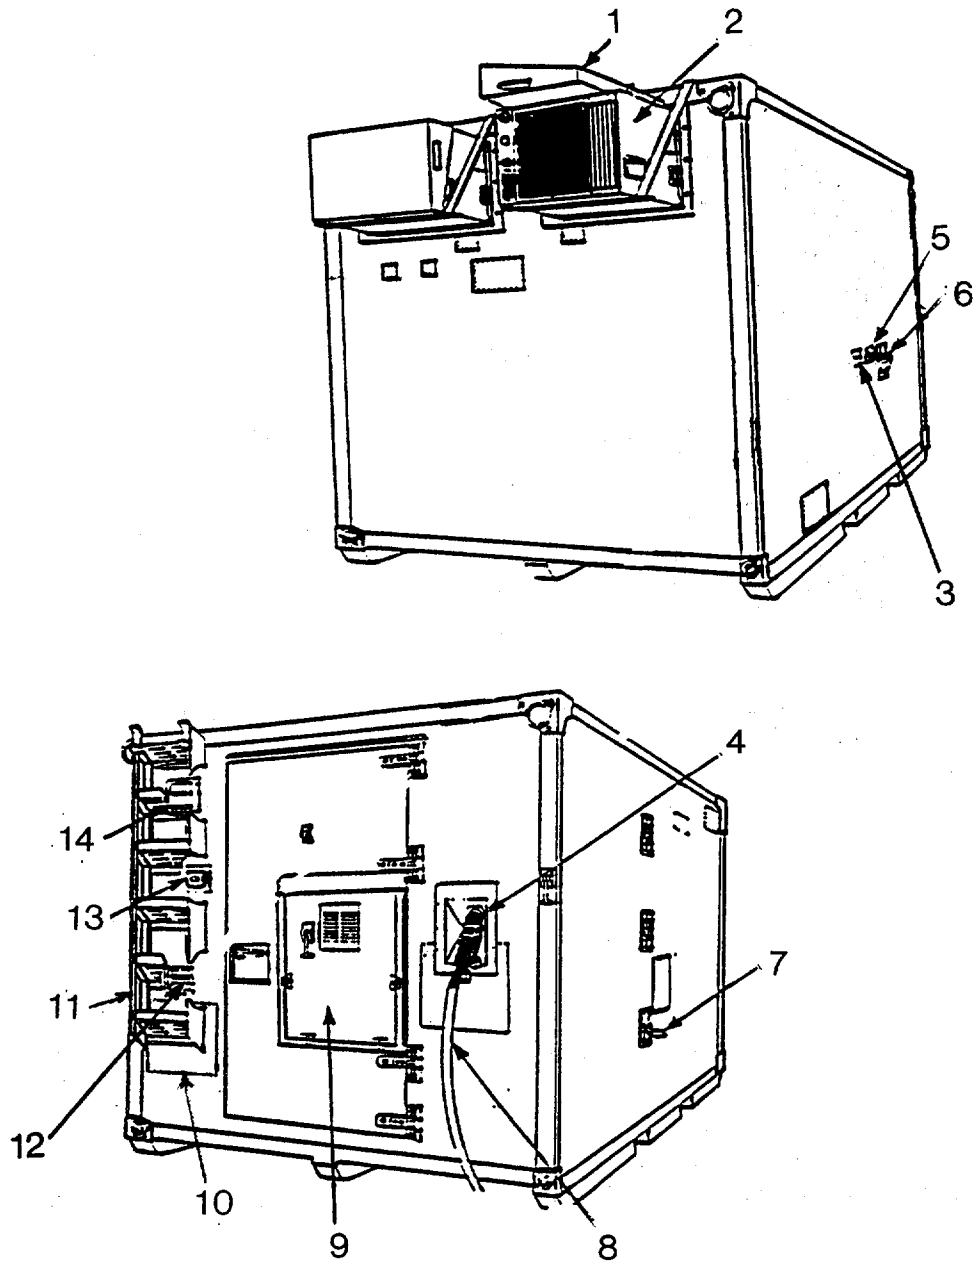

Figure 1-2. Location and Description of Major Components, Editorial Shelter, Exterior
1-11. LOCATION AND DESCRIPTION OF MAJOR COMPONENTS. Left and right orientation is determined by facing the shelter personnel door. Paragraph numbers below correspond to callouts in Figure 1-2 and 1-3. All equipment is located in its operational position.
- a. Editorial Shelter Exterior. Refer to Figure 1-2 for location of major components.
- (1) Condenser Cover (1). Protects the air conditioner when not in use and during transit of the shelter.
- (2) Air Conditioner (2). Provides temperature control for the shelter.
- (3) Roadside Level Indicator (3). Roadside bubble gage-type level used to level shelter.
- (4) Main Power Receptacle (4). Permits supply of power to interior main power service box when power cable is connected.
- (5) Sink Drain (5). Provides a means of draining darkroom sink.
- (6) Water Tank Filler (6). Provides an outside means of filling water tank.
- (7) Folding Steps (7). Allows access to roof of shelter.
- (8) Main Power Cable (8). Used to supply shelter with power from power source.